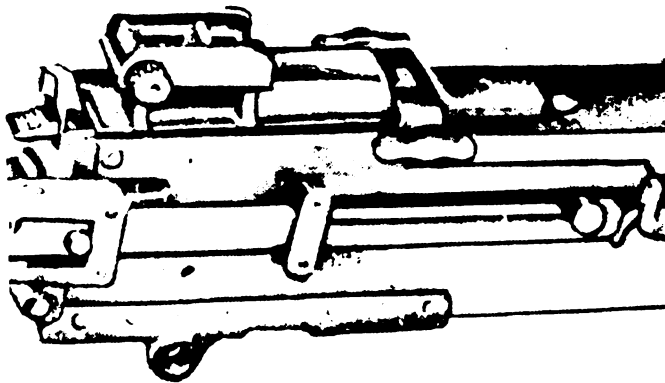

Figure 1
(1) Adjust rear sight: (See fig. 1.)